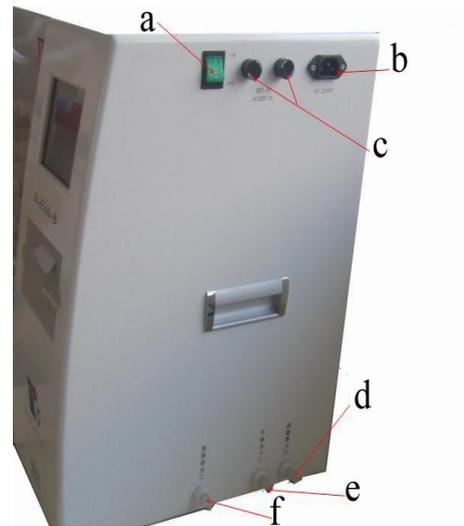

Figure 7-2
7.2 W-F168-B Dialyzer Reprocessing Machine——Left View: (Figure 7-2)